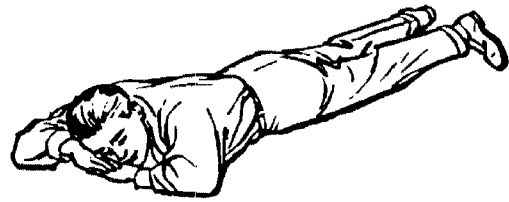

Fig. 38—Position of Victim
Step 1. The victim lies in a prone position with his hands under his chin, similar to the position assumed in artificial respiration. (See Fig. 38.)